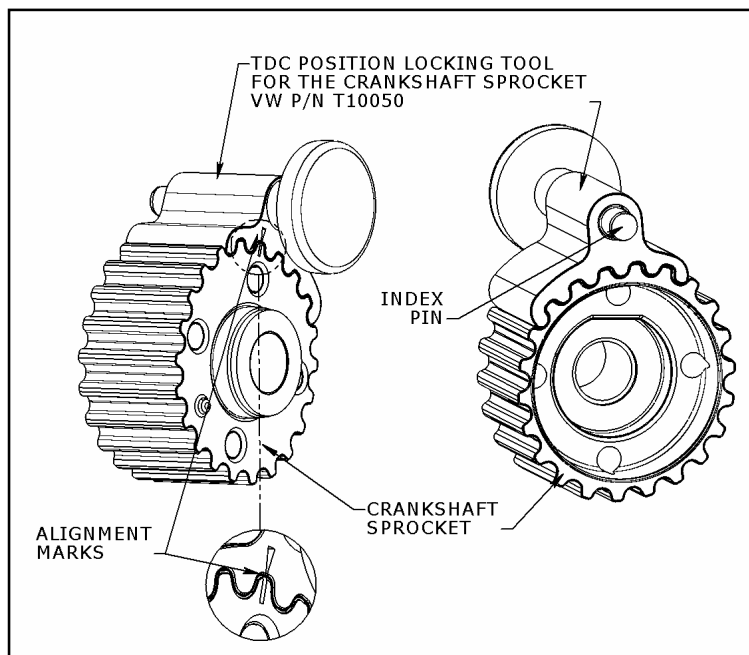

Figure 3: Crankshaft TDC Alignment Tool
- Crankshaft has to be locked in position using a crankshaft locking tool (Figure 3). Follow VW's guidelines.